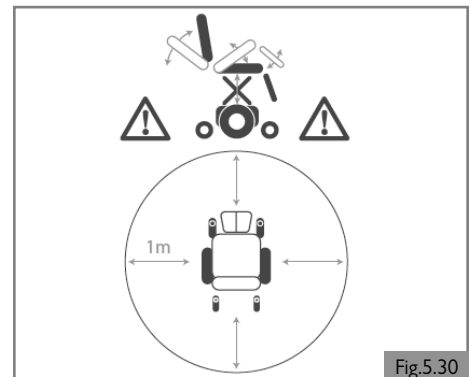

Fig.5.30
4. As with all moving parts, be careful not to trap your fingers. (Fig. 5.30)